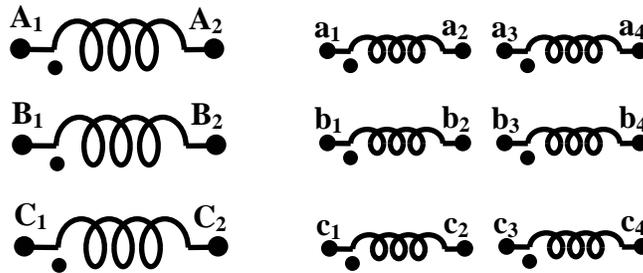

Figure 26.21: 3-phase transformer with two secondary coils per phase
4. Refer to the following figure 26.21 which shows the windings of a 3-phase transformer. Primary turns per phase is 250. Each phase has got two *identical* secondary windings each having 100 turns. The primary windings are connected in star by shorting A_2 , B_2 and C_2 and supplied from a balanced 3-phase 1000 V (line to line), 50 Hz source.